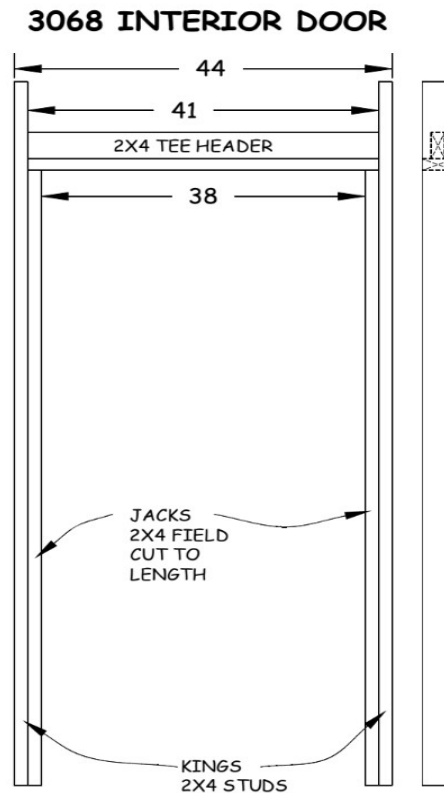

Figure 4-2. Example of Interior Wall Component Assembly Drawing.
1. Referring to the Component Assembly Drawings for interior components in the House Plan Support Documents, assemble the interior door components (see Figure 4-2 for an example of an interior component assembly drawing).
3. Identify the appropriate header and place it so the horizontal portion of the "T" header is on top of the Jack studs, tight against the King studs. Nail through the King studs into both ends of the header pieces with ¾" collated nails - two nails in the horizontal piece and one nail in the vertical piece of the header (see Figure 4-2).